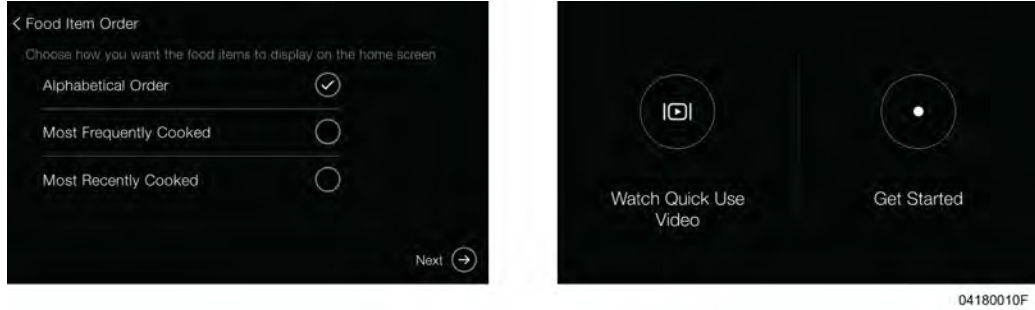

Figure 3-5
- 10) Select how you would like food items to be displayed on the home screen. Choose from alphabetical order, most frequently cooked or most recently cooked, see Figure 3-5 , page 14.